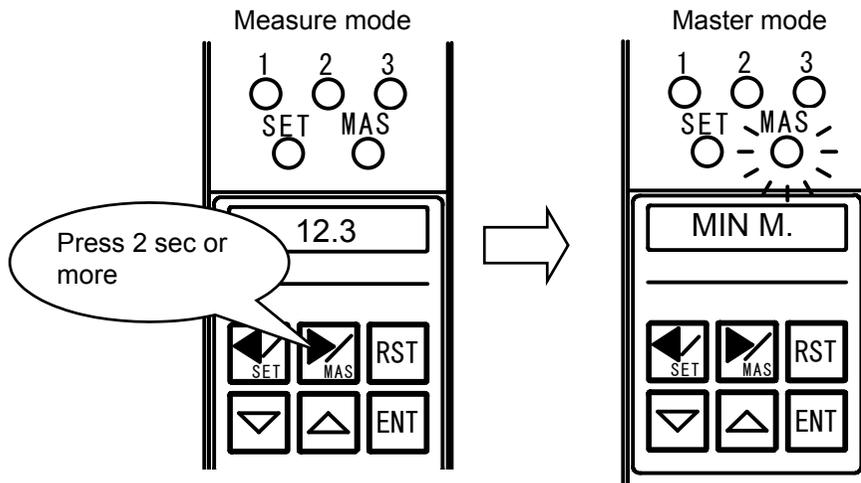

Fig. 7-1. Changing to master mode.
- ① In the measure mode, press  for 2 sec or more.
- ② When the MAS LED below the bargraph display is turned on and “MAX M.” or “MIN M.” is shown on the alphanumeric display (refer to Fig. 7-1), press  to change to the adjust detector mode and show “ADJ.” on the alphanumeric display.
- ③ Press  to change to the clear mastering data mode and show “MAST CLS” on the alphanumeric display.
- ④ Press  to clear the mastering data, show “M .CLS OK” on the alphanumeric display, and return to the master mode.